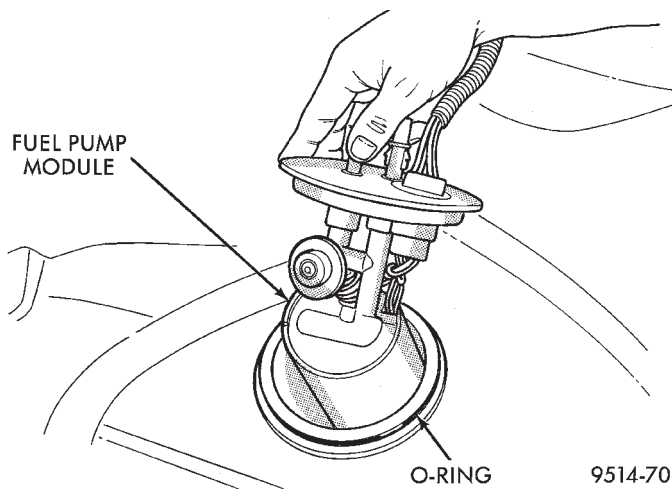

Fig. 14 Fuel Pump Module Removal
(7) Remove fuel pump module and O-ring from tank (Fig. 14). Discard O-ring.